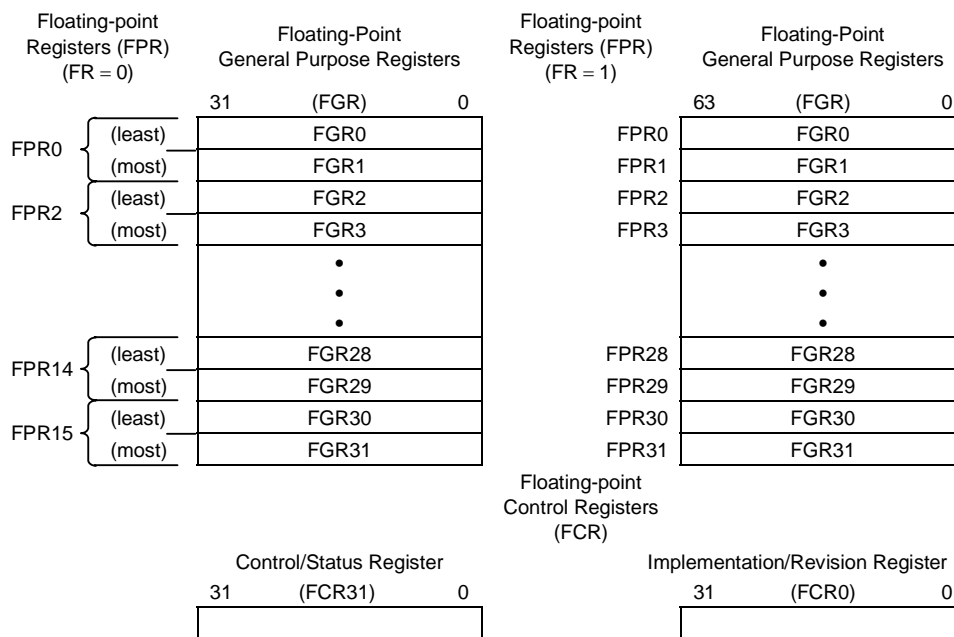

Figure 3.3.1 FP Registers
- As 16 floating-point registers (see the next section for a description of FPRs), each of which is 64-bits wide, when the FR bit in the CPU Status register equals 0. The FPRs hold values in either single- or double-precision floating-point format. Each FPR corresponds to adjacently numbered FGRs as shown in Figure 3.3.1.
- As 32 floating-point registers (see the next section for a description of FPRs), each of which is 64-bits wide, when the FR bit in the CPU Status register equals 1. The FPRs hold values in either single- or double-precision floating-point format. Each FPR corresponds to an FGR as shown in Figure 3.3.1.